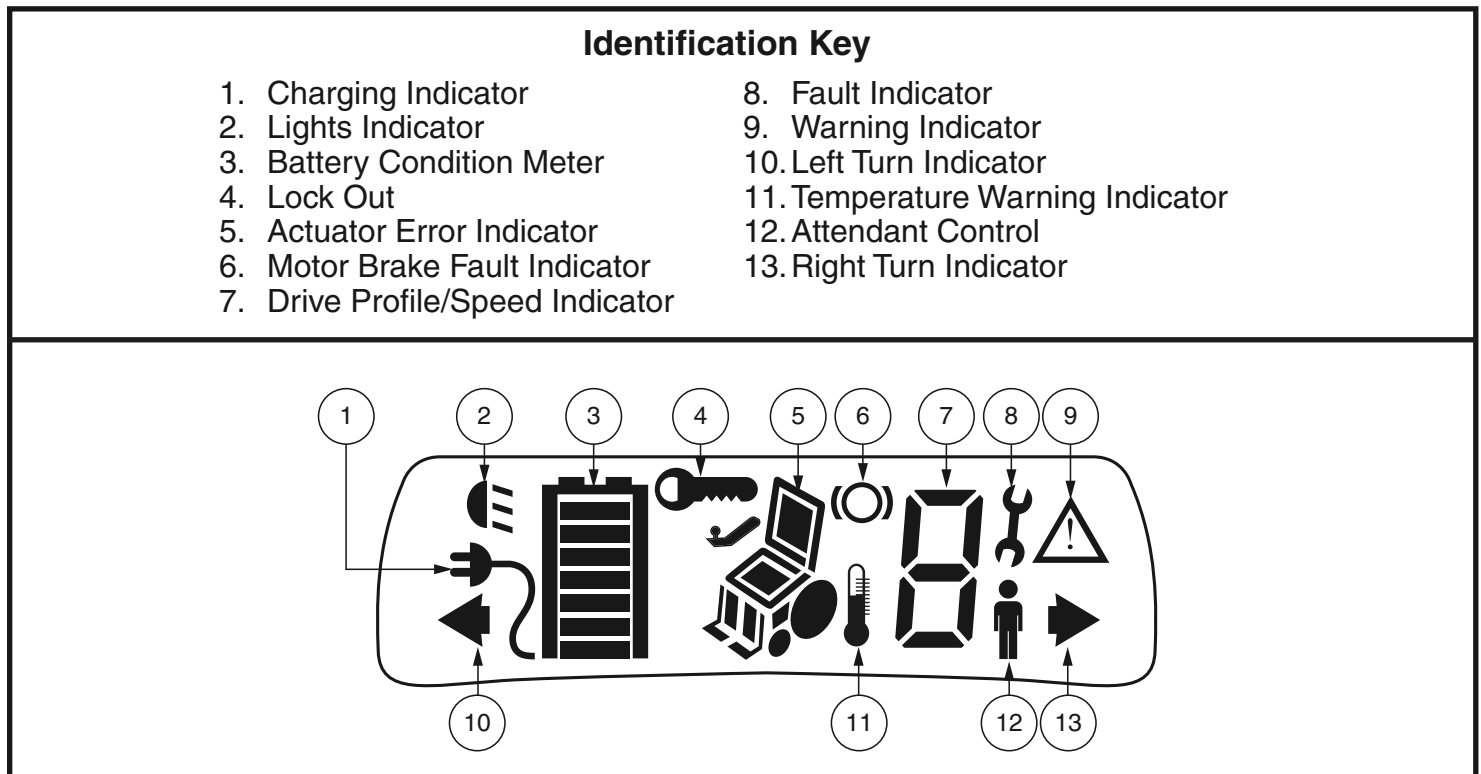

Figure 1. LCD Screen
The LCD screen provides the user with easily intuited feedback information such as battery condition, key lock, actuator indicators, turn indicators, power chair speed, warnings, and error codes. **See figure 1.**
- **Warning:** Alerts you to conditions that may affect power chair functionality and performance. **See figure 1.**
- **Temperature:** Alerts you to conditions relating to the temperature of your power chair components that can affect functionality and performance. **See figure 1.**